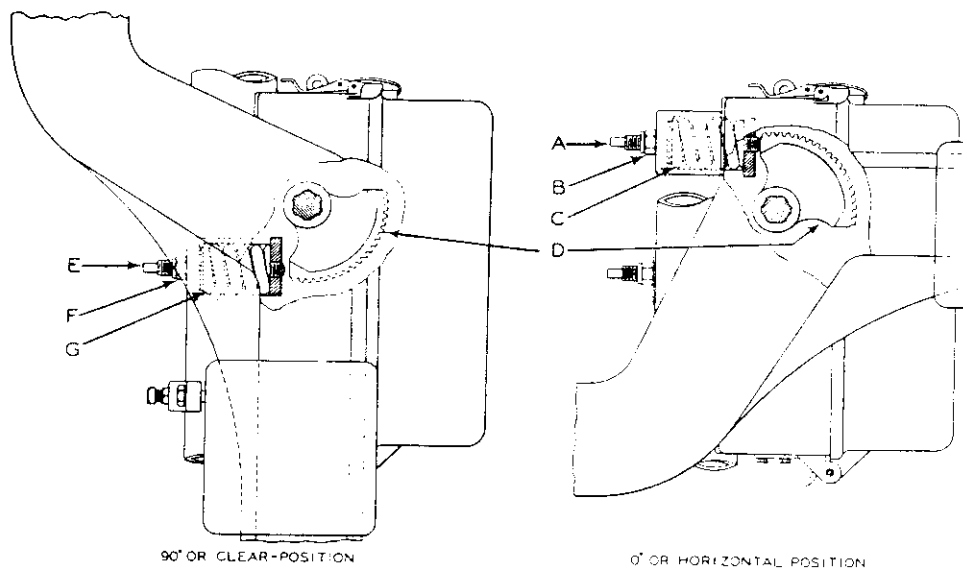

Figure 10. Spring stop assemblies.
3. Remove the protective closure from the conduit outlet on the back of the mechanism case and install the $1\frac{1}{2}$ -inch flexible metallic conduit. Make sure that the main shaft is in the position it assumes when the gate arm is horizontal. This condition exists when gear segment D is in contact with stop screw A, as shown in Figure 10.
1. Adjust the horizontal spring stop, Figure 10 - initial tension is adjusted at the factory by compressing spring C by means of elastic stop nut B. For field adjustment, hold nut B with a wrench to prevent its turning, and with a second wrench turn screw A in or out as required to locate the gate arm in the horizontal position.
2. Adjust the clear position spring stop, Figure 10. Raise the gate arm by power to the clear position (90 degrees) and hold it in this position. The initial tension of spring G is adjusted at the factory. Hold nut F with a wrench and with a second wrench turn screw E in or out until there is approximately 1/8-inch clearance between gear segment D and the end of the stop screw E. Power-operate the mechanism to check the adjustment.